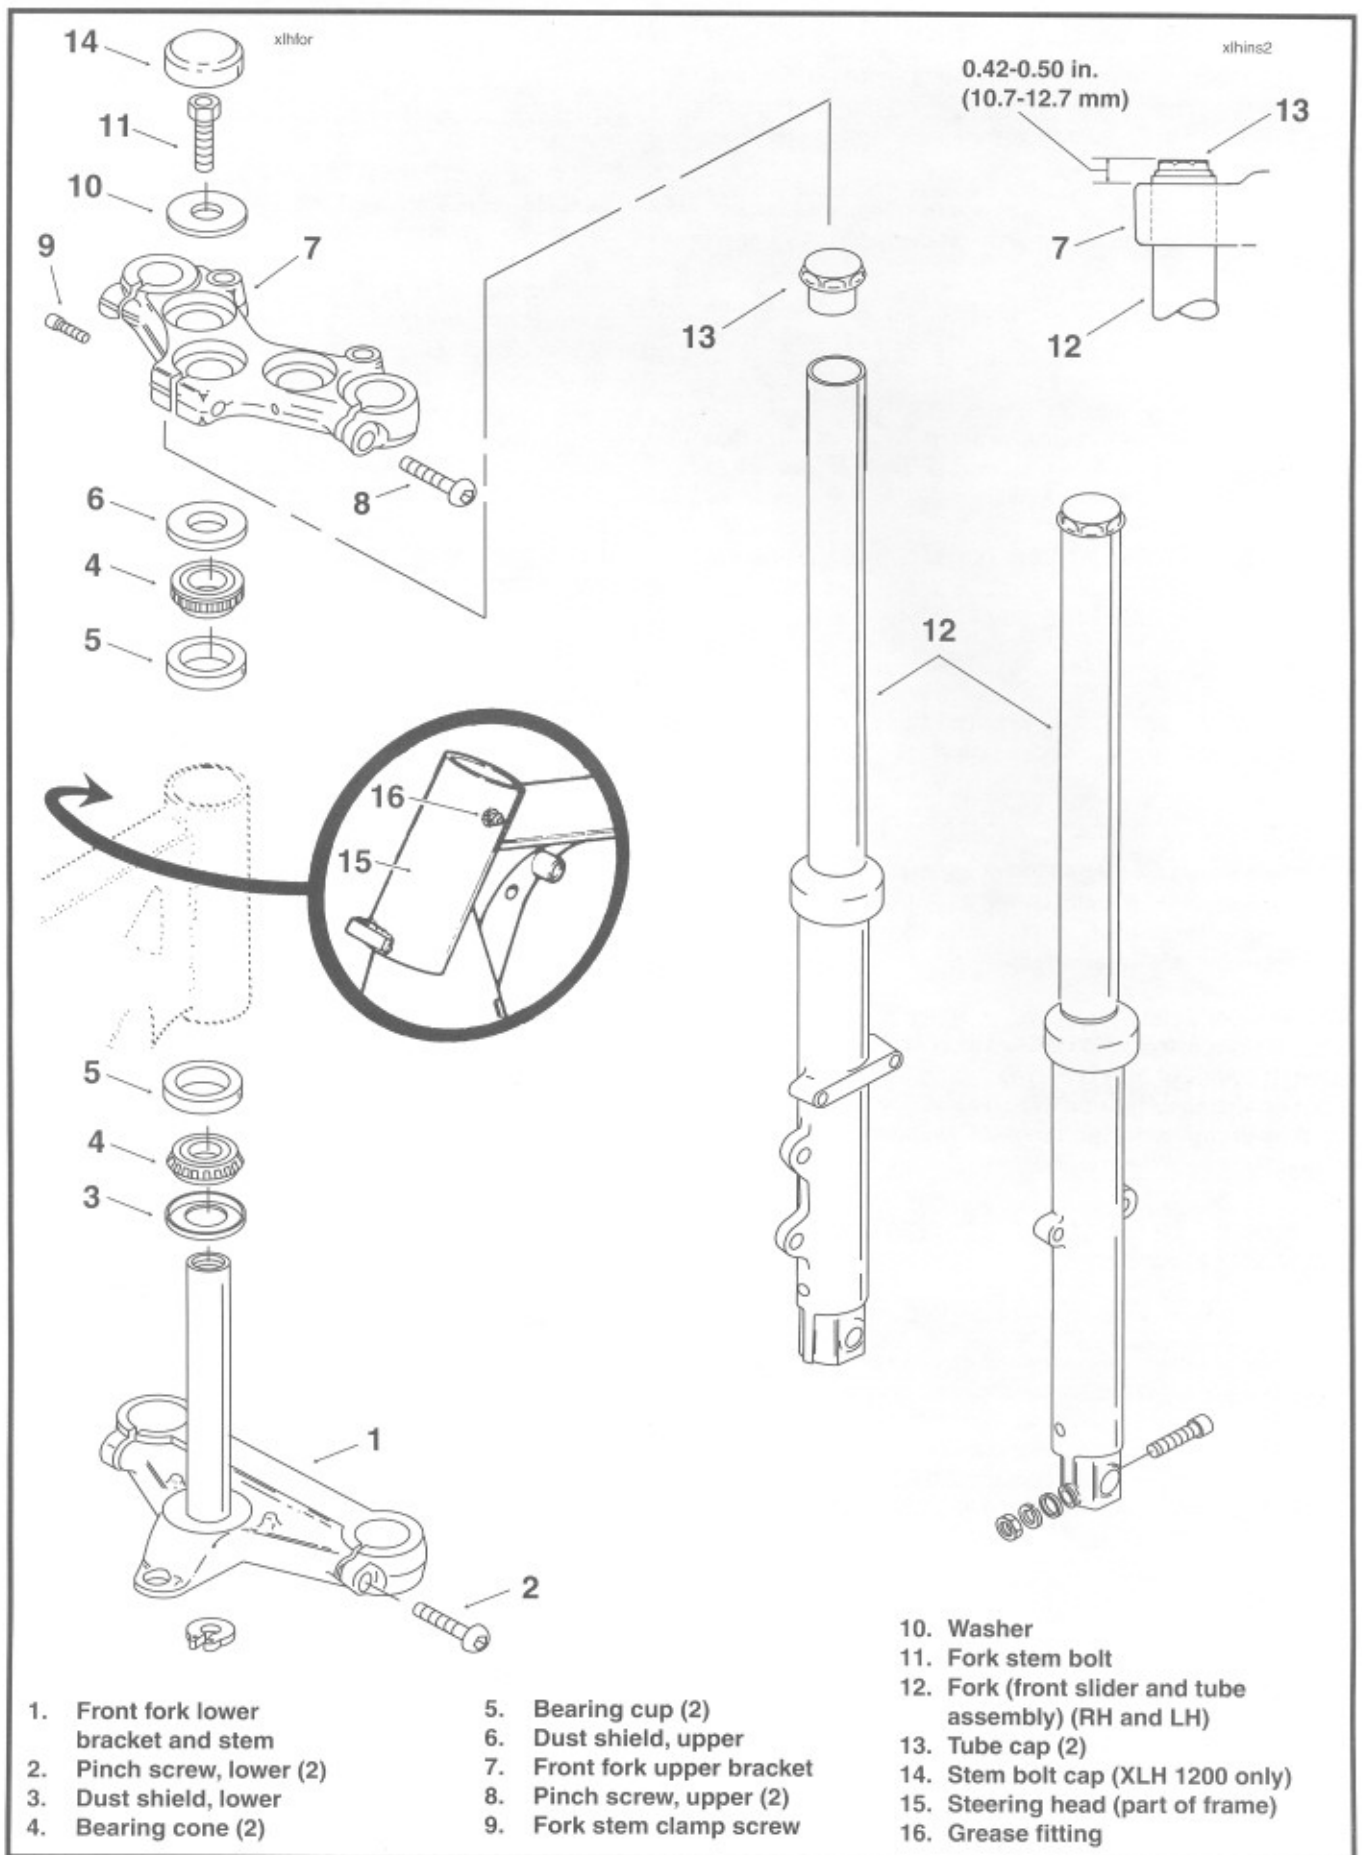

Figure 2-60. Front Fork Assembly
3. See Figure 2-60. Loosen front fork upper and lower bracket pinch screws (8 and 2).
4. Slide fork sides (12) downward to remove from front fork brackets (7 and 1).
INSTALLATION (Figure 2-60)